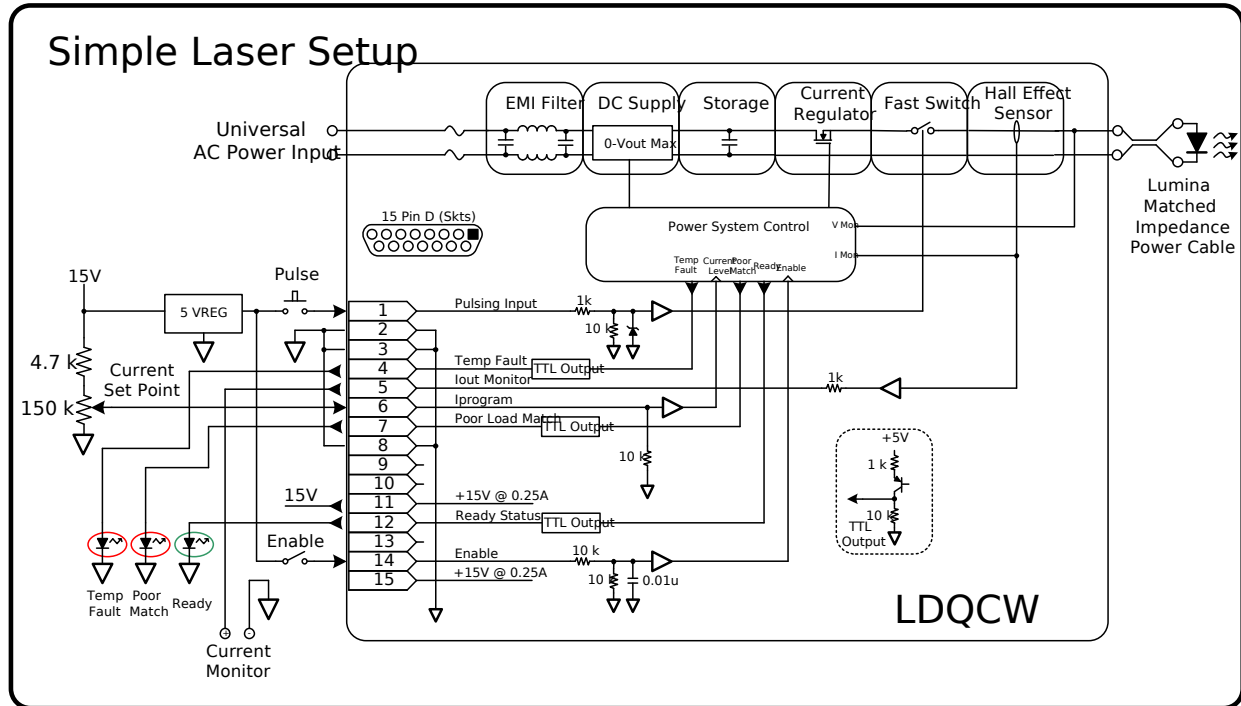

Figure 4 - Simple Laser Setup
- When connecting to the LDQCW consider the input and output impedance of the interface connections. Refer to Section V, Figure 4.